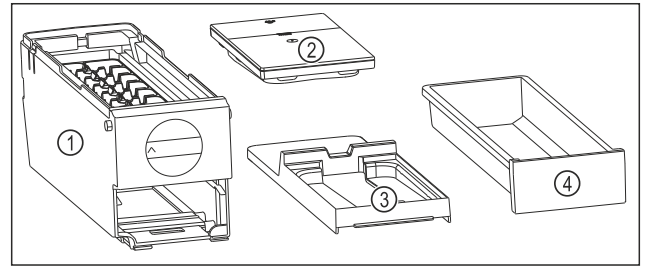

Fig. 78 Components of the EasyTwist-Ice
- ▶ EasyTwist-Ice is dismantled into four parts. (see Fig. 78)
- ▶ Only dismantle the EasyTwist-Ice into the components shown. (see Fig. 78)
- ▶ Clean the EasyTwist-Ice body Fig. 78 (1) as a whole.